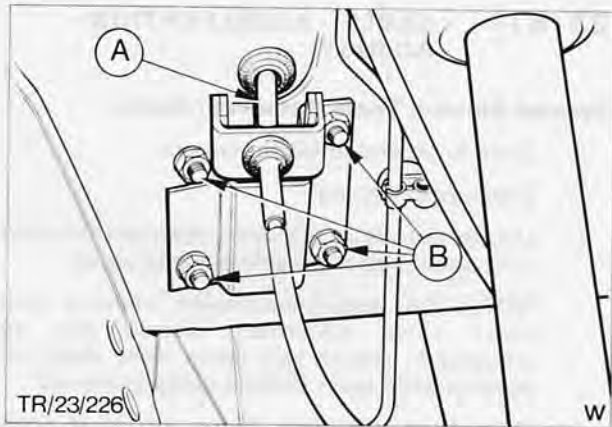

Fig. 83. Pedal shaft assembly
- From under bonnet, remove four nuts and detach pedal shaft from inside vehicle. Fig. 83.